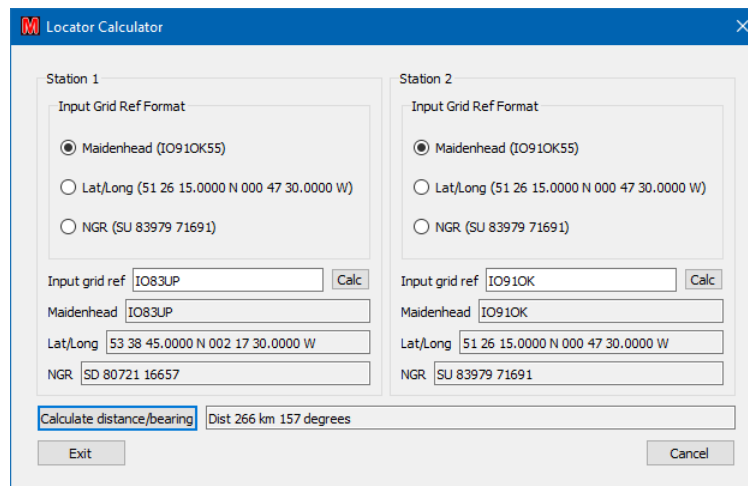

Figure 38 – Locator calculator
Depending on the option selected, you can enter a Locator, a Latitude/Longitude, or a (UK) National Grid Reference³⁹ into the “Input grid ref” box (see Figure 38) and convert between the various displays. Selecting “Calc” (or hitting “Return”) will then calculate and display the other two formats. If both Station details are given it also calculates the distance and bearing from Station 1 to Station 2.